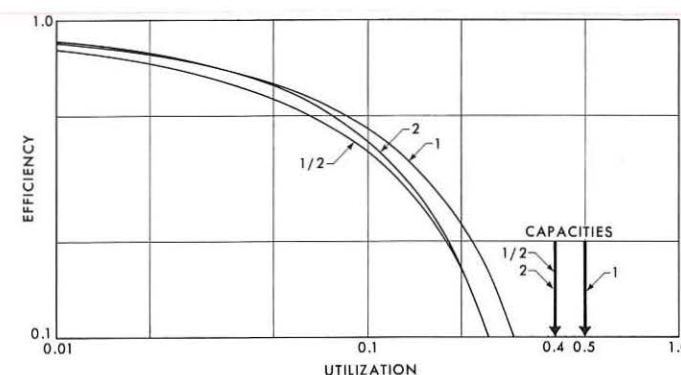

FIGURE 6: Efficiency versus utilization for screens of height/width ratio 2, 1, 1/2 with lower edge at eye level.
Figure 6 shows the variation of display efficiency with utilization for screens of different height/width ratios and with the lower edge at eye level. The efficiency decreases
A few examples will illustrate how the concept of efficiency can be applied to the design of optimum displays. As the first example, we consider a screen of height/width ratio 2 with the lower edge at eye level, and display an array of 400×200 symbols each requiring a visual angle of $\delta = 0.1$ degree in each dimension. The utilization of this display is $N\delta^2 = 0.24$ ster, which amounts to 60 percent of capacity. For this utilization, Figure 6 shows a display efficiency η of 10 percent. According to the efficiency definition (10), this means that the screen must be 3.05 times larger than the audience. Thus, to serve a $20m^2$ audience, we need a $61m^2$ screen.